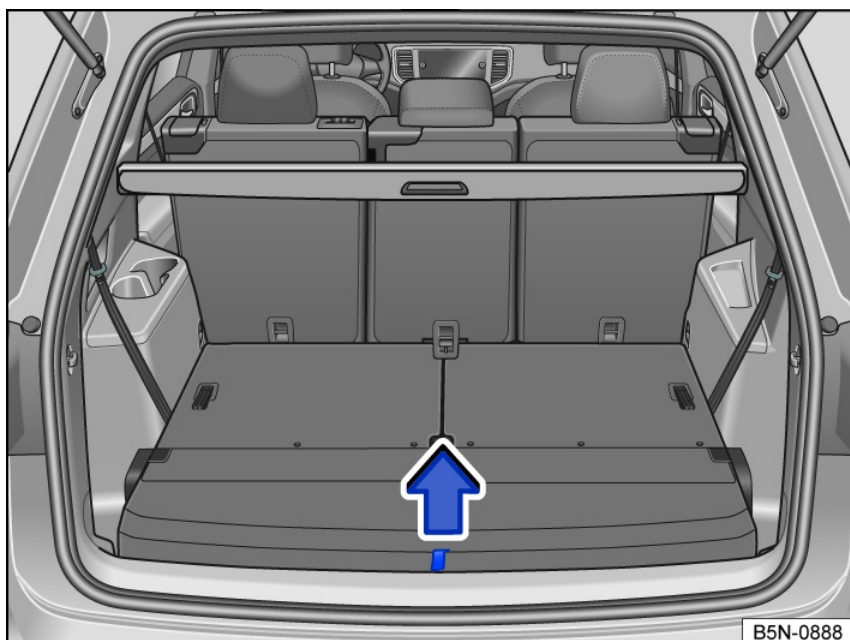

Fig. 152 In the luggage compartment: Lift up the luggage compartment floor.
- Pull the luggage compartment floor upwards by the loop fig. 152 in the direction of the arrow and remove it.